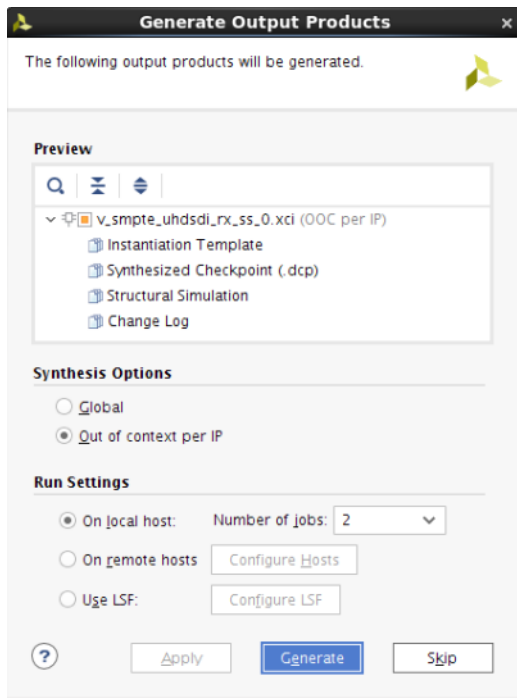

Figure 5-15: Generate Output Products
- Click **Generate**. (See Figure 5-15.)